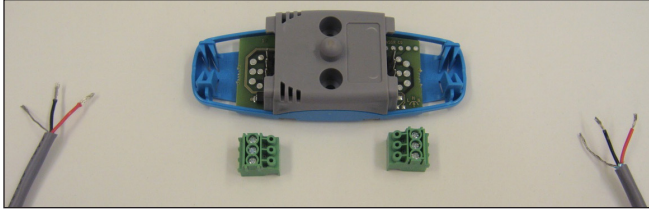

Figure 7. EAFR-01 sensor connection step 1.
1. Open the sensor side covers and then detach the pluggable connectors from the sensor PCB and prepare the twisted shielded pair cable connecting (see Figure 7).